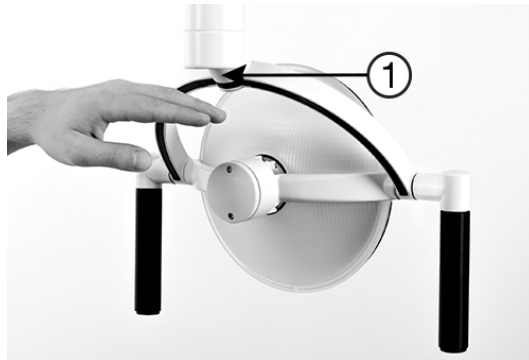

Figure 35 – No-touch sensor
Manage the light manually by activating the no-touch sensor under the light head – see Figure 35 (1).